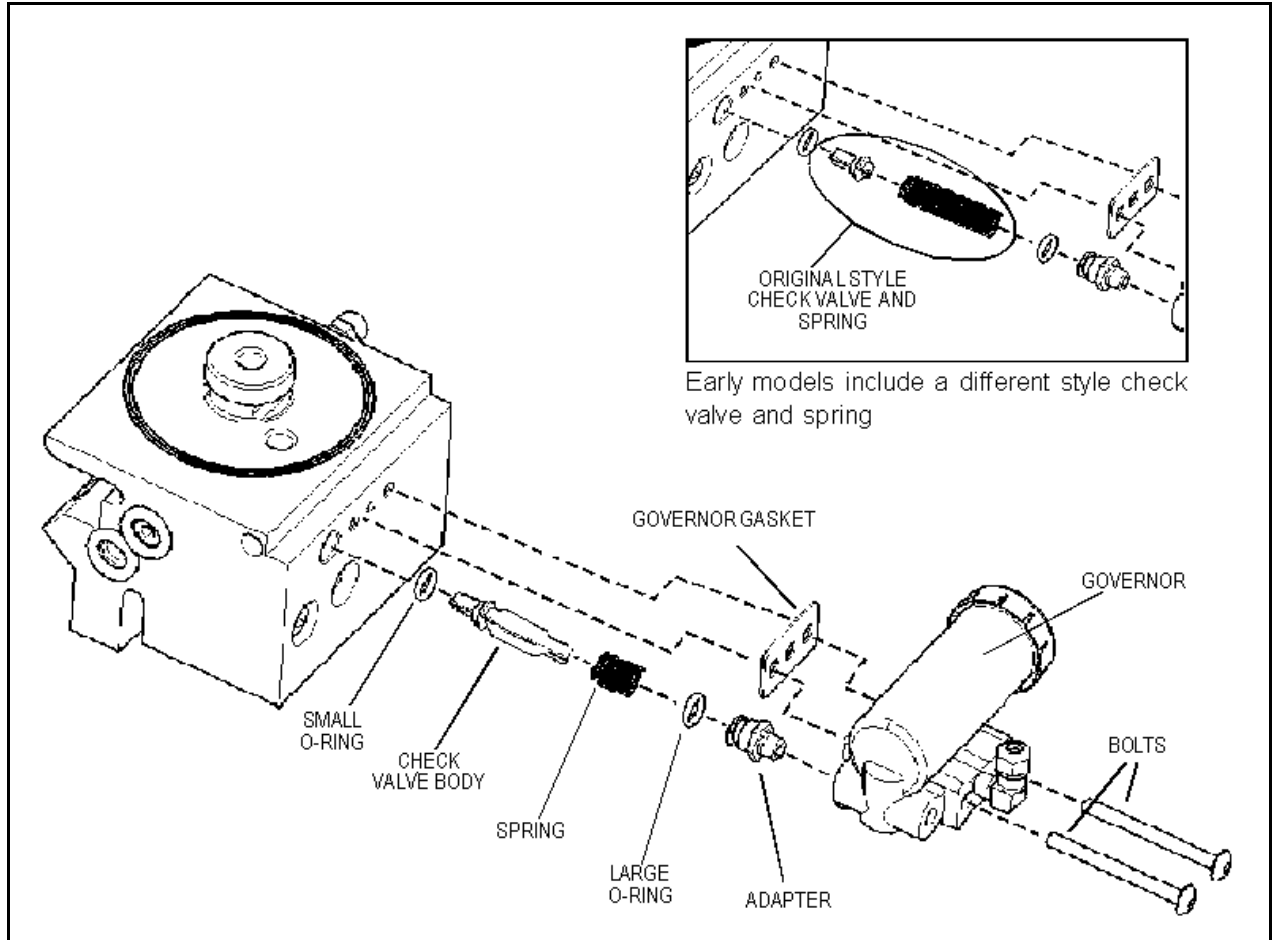

FIGURE 2 – Exploded view of Delivery Check Valve
See Figure 2 throughout this procedure. Depressurize the air brake system following the general safety precautions outlined elsewhere in this document.
4. The spring/delivery check valve can now be removed. (Note: The spring/delivery check valve may be a previous design. See Figure 2.)